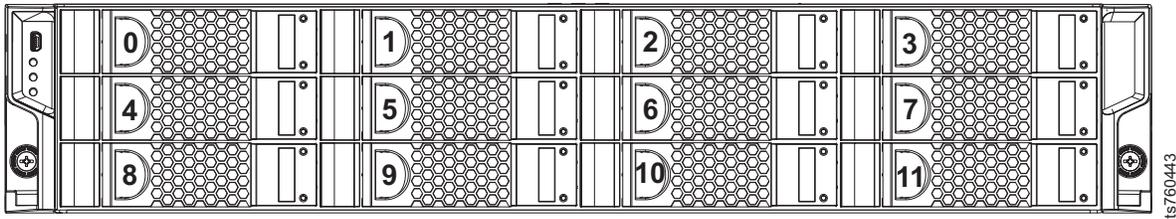

Figure 31. HDD position order
21. Refer to Figure 31 on page 55. Install each of the 12 1 TB HDD drives into their same corresponding locations in the new chassis. “Removing and replacing the TS7610 or TS7620 ProtecTIER V3.3.6 fibre channel adapter” on page 73.